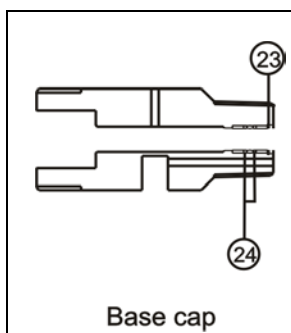
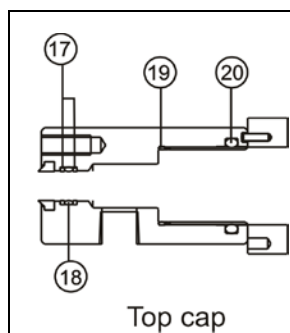

Figure 6
Figure 7
- 3.3.4 Use a pick or a small knife to remove and replace the backups and seals (Parts 23, 24, 17, 18, 19, and 20) in the base and top caps (see Figure 6 and Figure 7).